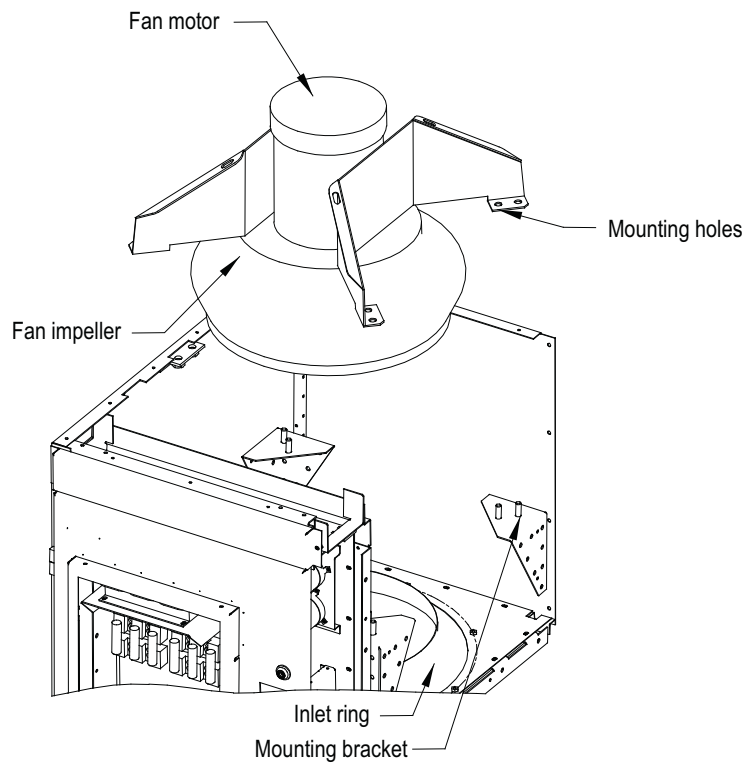

Figure 73 - Fan removal (standard model)
1. Remove the DC Link barrier and impeller access panel (Figure 73 on page 90). Remove electrical components in front of the inlet ring access panel.